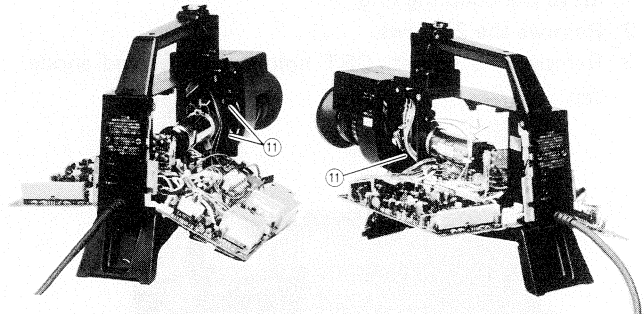

Fig. 18
11. Remove the 3 screws to remove the filter ass'y (Fig. 18).